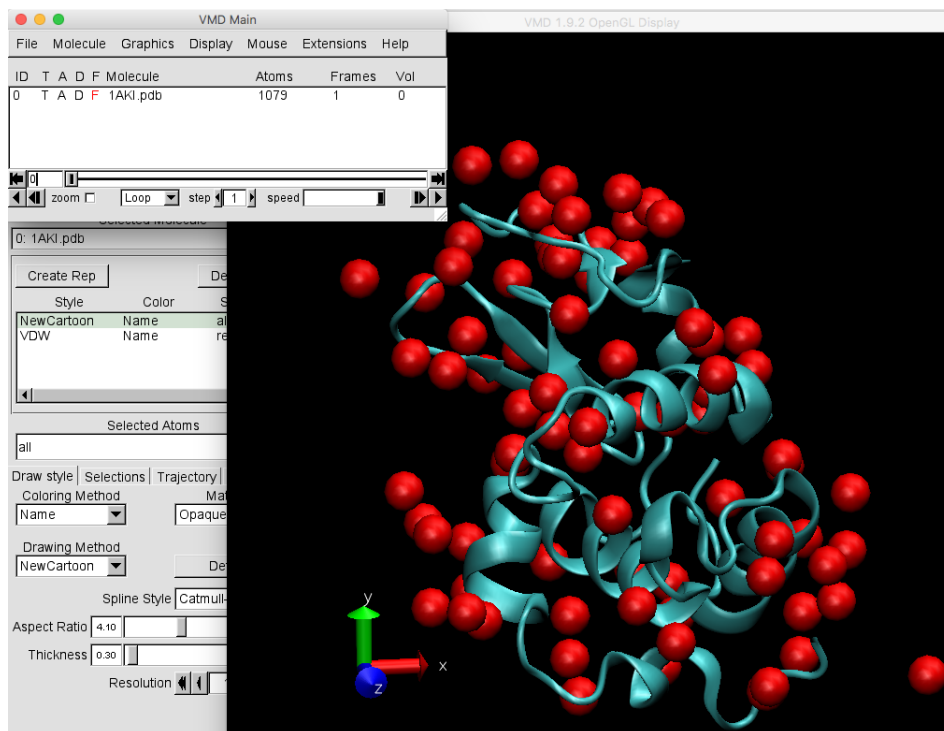

Figure 4: Crystal waters, shown as red spheres, in lysozyme crystal structure should be removed.
2. Once you have downloaded the structure, you can visualize the structure using a viewing program such as VMD (Figure 4). Once you've had a look at the molecule, you are going to want to strip out the crystal waters. Note that such a procedure is not